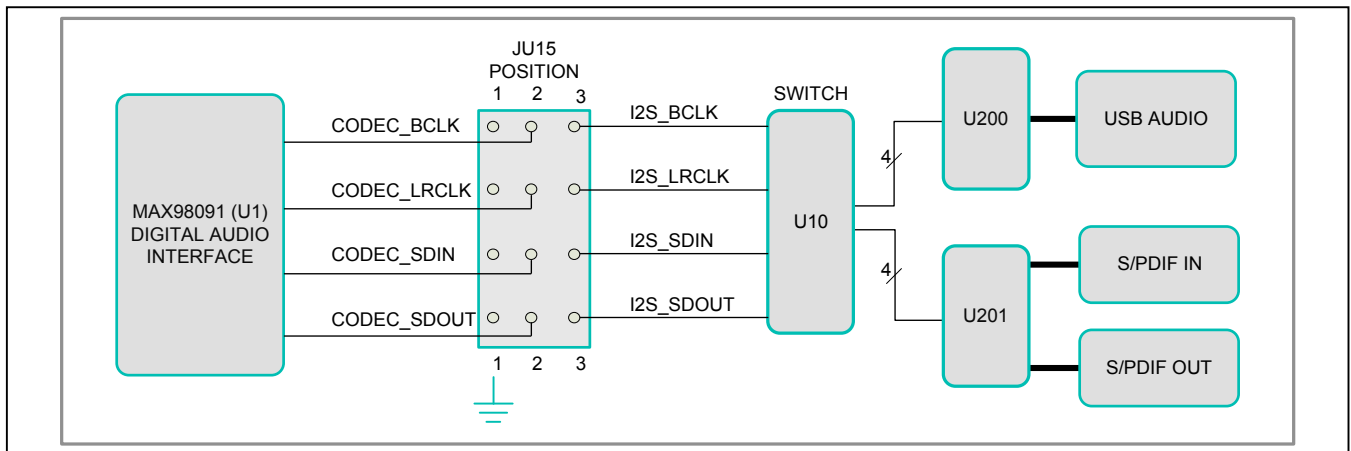

Figure 12. I2S Routing
**Note:** All PCM digital audio is routed through the I2S header before routing to the MAX98091's DAI. This is true for the USB AUDIO input as well as for the S/PDIF I/O. See Figure 12.